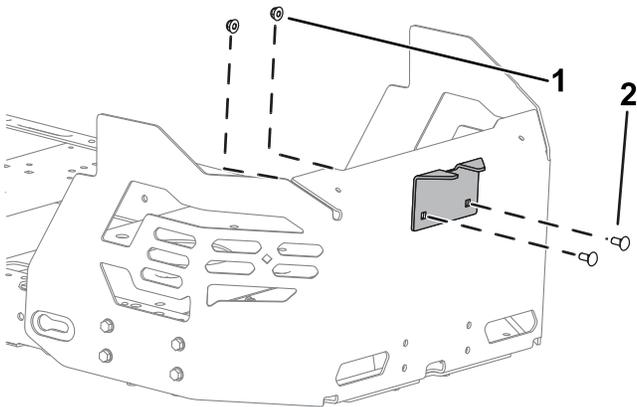

Figure 14
2. Install the stabilizer bracket to the engine guard using 2 carriage bolts (5/16 x 3/4 inch) and 2 locknuts (5/16 inch) as shown in Figure 14.